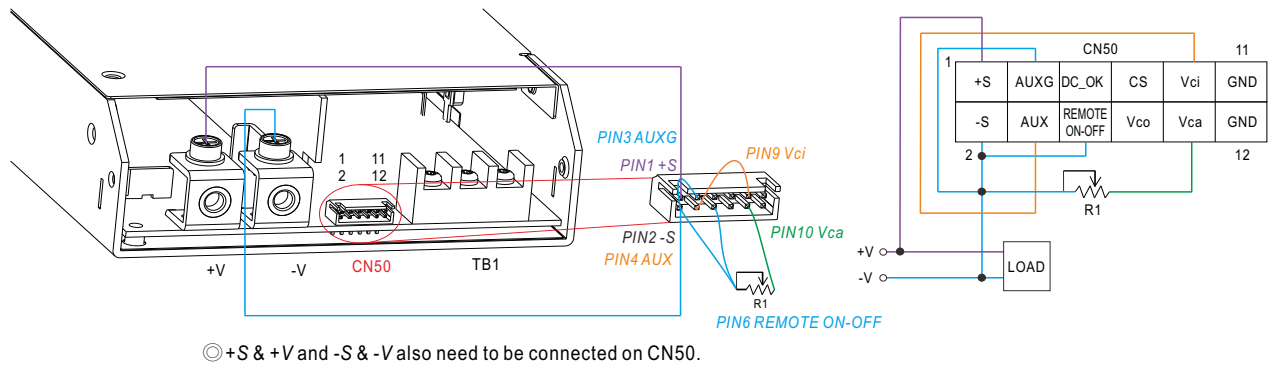
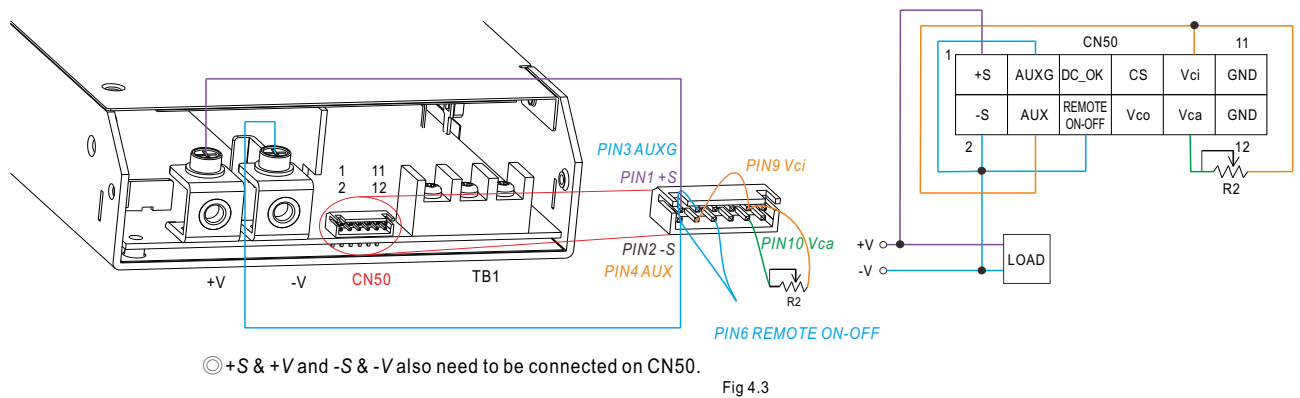

Fig 4.2
Fig 4.3
(2)Applying EXTERANL RESISTANCE as shown in Fig4.2 & Fig 4.3